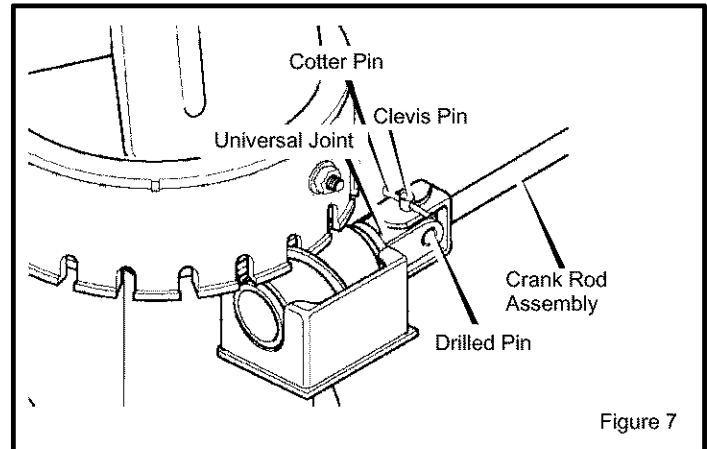

Figure 7
7. Carefully remove cotter pin, clevis pin, and universal joint pin from yoke end of crank rod assembly. (Figure 7)